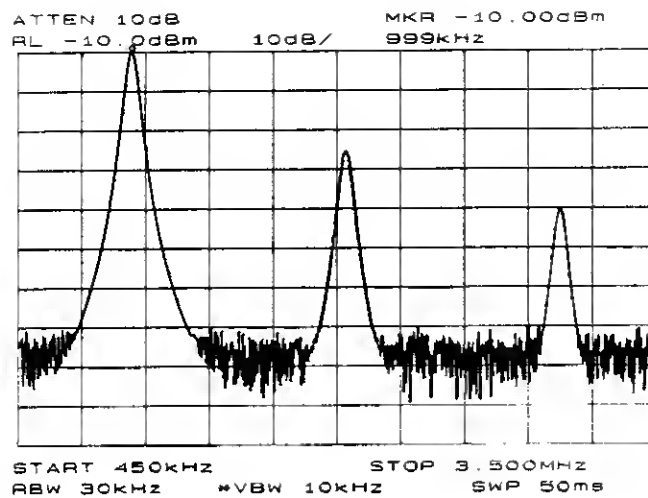
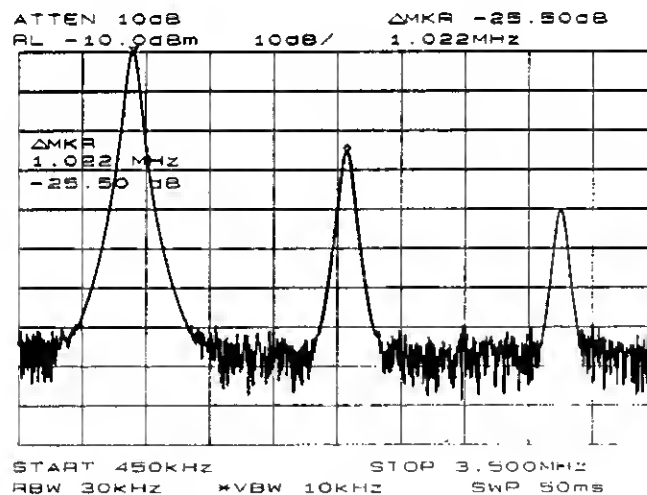
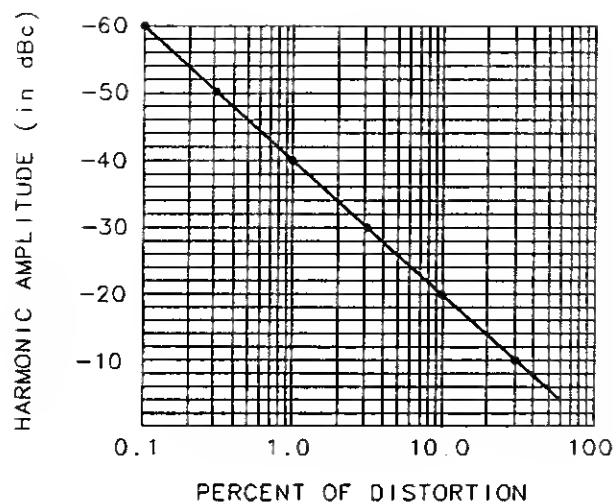
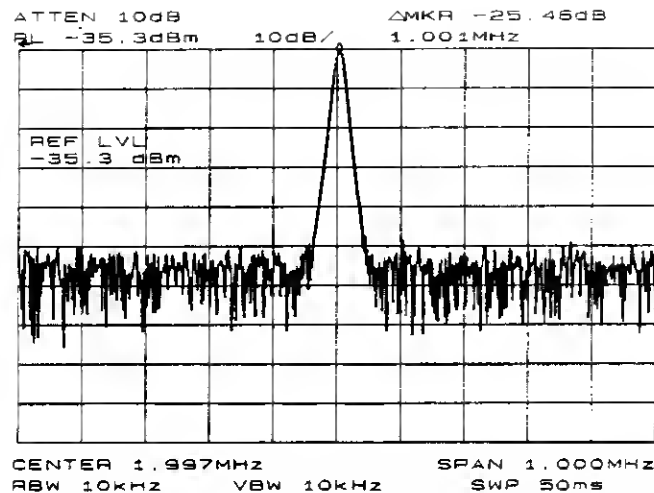

Figure 3-2. Peak of signal is positioned at reference level for maximum accuracy.
Figure 3-3. Harmonic distortion measured in dBc. Marker threshold set to -70 dB.
Figure 3-4. Percentage of Distortion vs. Harmonic Amplitude
Figure 3-6. Second harmonic displayed in dBc.
2. For greatest measurement accuracy, raise the peak of the fundamental to the reference level by pressing **PEAK SEARCH**, **MKR ->**, and then **MARKER -> REF LVL**. This is shown in Figure 3-2. To activate a second marker, press **PEAK SEARCH**, **MARKER DELTA**, and **NEXT PK RIGHT**. This places the anchor marker on the fundamental, and a second marker on the peak of the second harmonic as shown in Figure 3-3. The difference in amplitude between the fundamental and second harmonic shown in the figure is approximately -25 dB, or 5.5% harmonic distortion (see Figure 3-4). To measure the third harmonic, press **NEXT PK RIGHT** again. Continue reading amplitudes and comparing them to Figure 3-4 for each additional harmonic you wish to measure. According to the definition of a peak, the next-peak routines find the corresponding peak when using **PEAK EXCURSN**.
2. To measure the second harmonic, press **(MKR)**, **MARKER DELTA**, **(FREQUENCY)**, and the step up **(▲)** key. This step retunes the spectrum analyzer center frequency to the second harmonic. Adjust the harmonic to the reference level. (Note that the **MARKER -> REF LVL** function is not available in marker-delta mode.) This displays the amplitude of the second harmonic as shown in Figure 3-6. The difference between the second harmonic and the fundamental can be converted to a percentage of distortion using Figure 3-4. Again, units can be changed to volts in order to read the voltage ratio of the two signals.